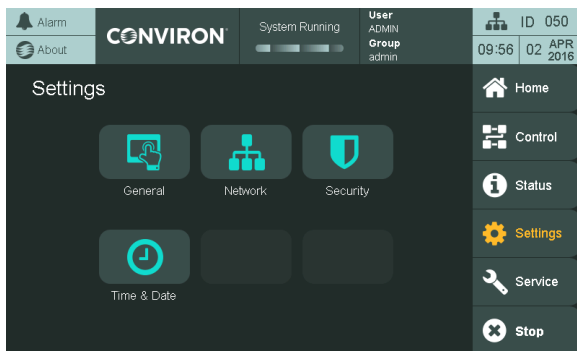

Figure 6-4 Settings Screen
2. Tap the **Settings** tab  on the Main menu at the right of the screen to access the **Settings** screen (Figure 6-4).